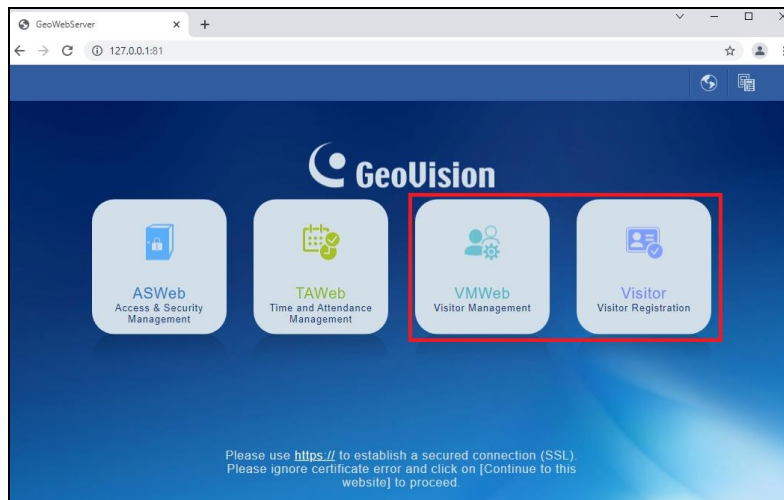

Figure 12-1
1. Open an Internet browser, and type the IP address of GV-ASManager to be connected. The login page (Figure 12-1) appears.